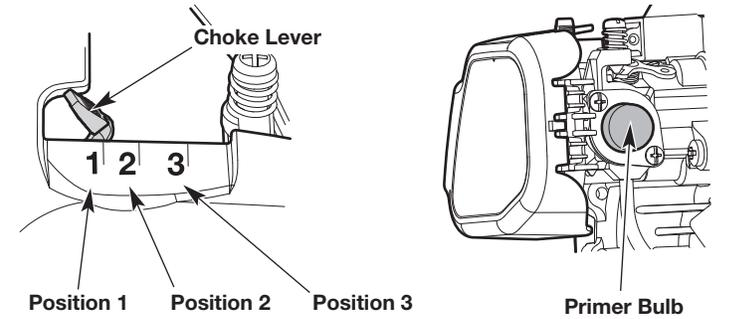

Fig. 8
3. Slowly press and release the primer bulb **10 times** (Fig. 8). If fuel cannot be seen in the primer bulb, press and release the primer bulb until fuel is visible.
4. Move the choke lever to **Position 1** (Fig. 8).
7. Continue to press the throttle lockout and squeeze the throttle control. Move the choke lever to **Position 2** (Fig. 8).
10. Continue to press the throttle lockout and squeeze the throttle control. Move the choke lever to **Position 3** (Fig. 8). Allow the engine to warm up for an additional 60 seconds. The unit may be used during this time.
IF... the engine hesitates, return the choke lever to **Position 2** (Fig. 8) and continue the warm-up.
8. Continue to press the throttle lockout and squeeze the throttle control. Move the choke lever to **Position 2** (Fig. 8).
12. Continue to press the throttle lockout and squeeze the throttle control. Move the choke lever to **Position 3** (Fig. 8). Allow the engine to warm up for an additional 60 seconds. The unit may be used during this time.